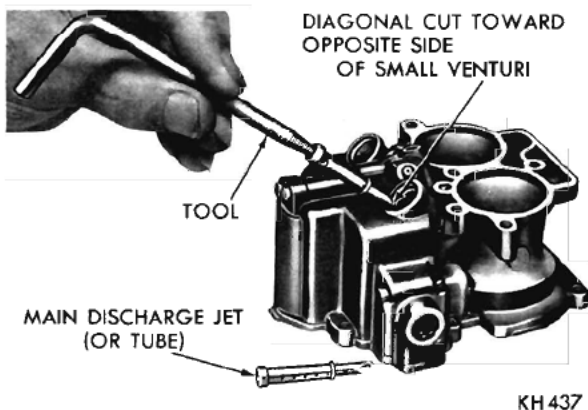

Fig. 9—Installing Main Discharge Jets (or tubes)
(1) Place the main discharge jets (or tubes) firmly on Tool 73608, as shown in (Fig. 9). Slide them into